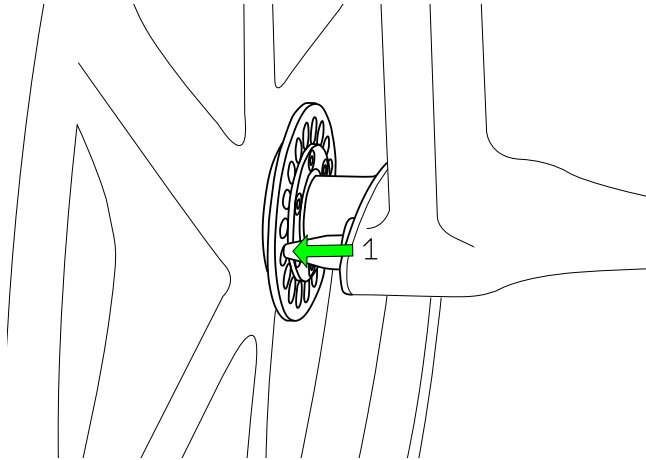

Figure 4.15
- This will cause the locking pin(s) at the hub locks to move toward the disc(s), engaging the brake (Fig 4.15, 1)